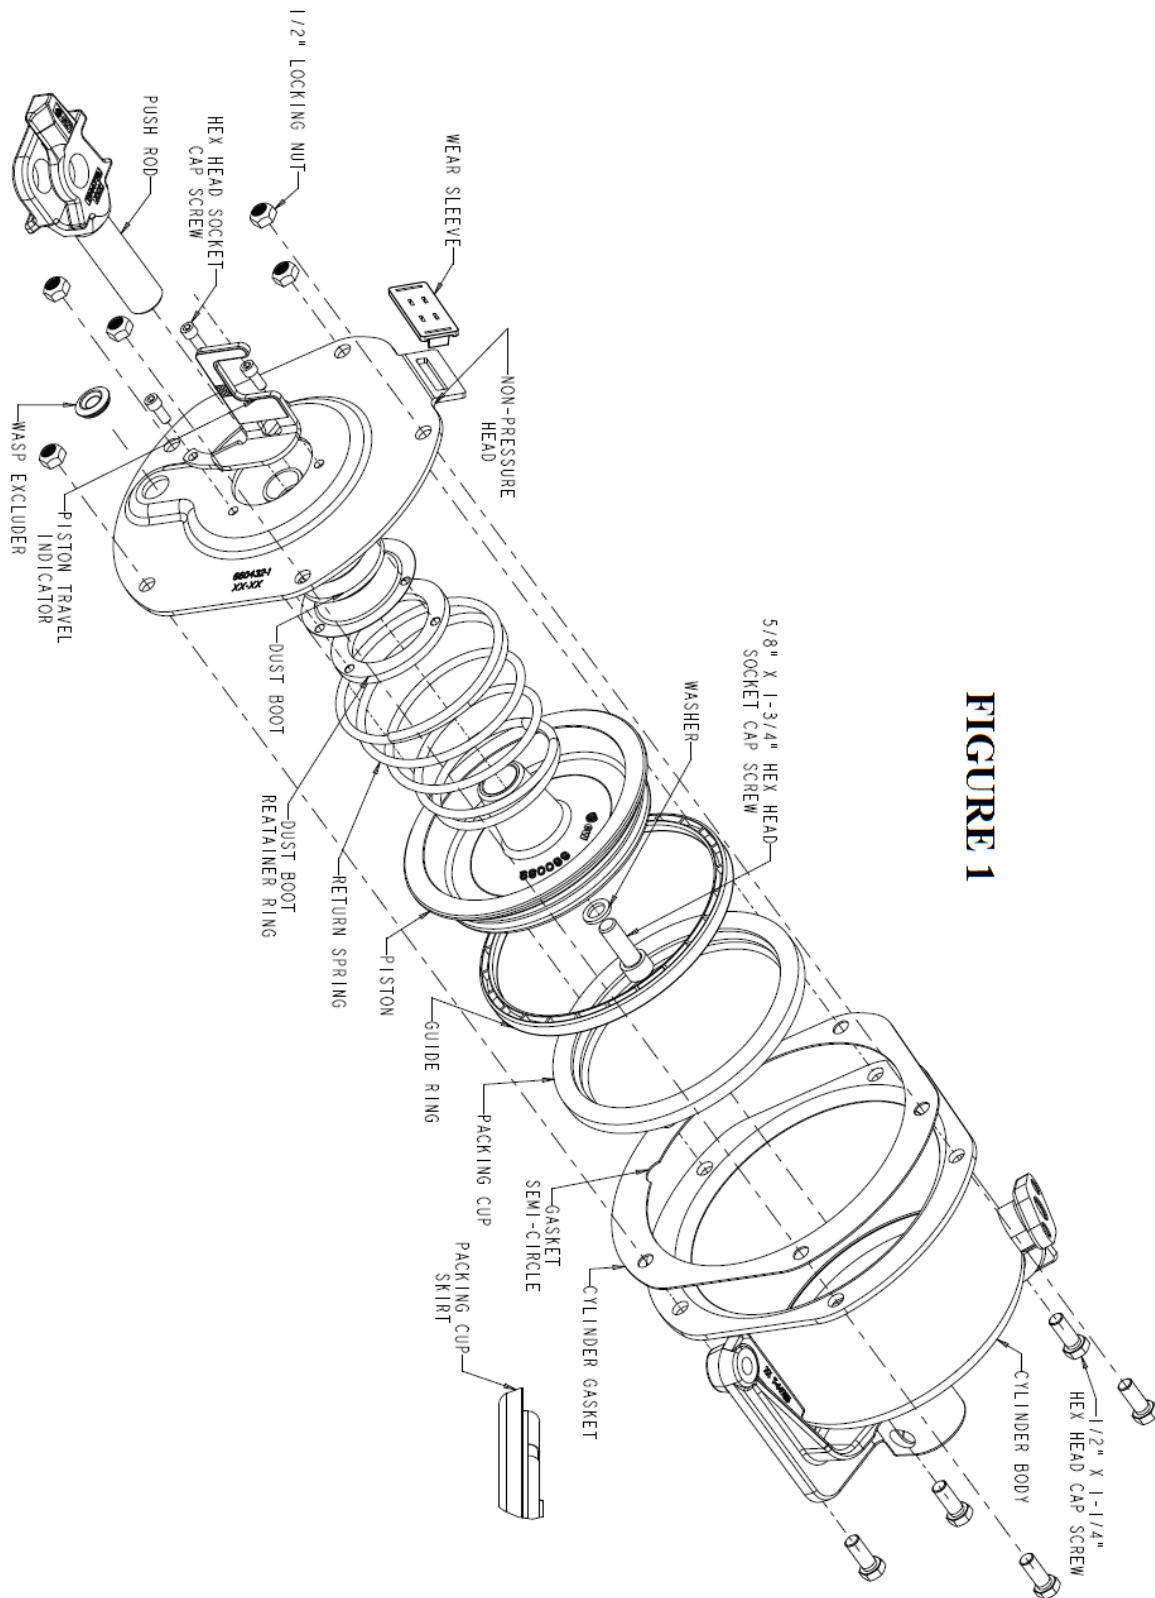

FIGURE 1
- 8.1 With the non-pressure head supported, install a new dust boot as shown in **FIGURE 1**.
- 8.2.2 As shown in **FIGURE 1**, be sure to install the piston travel indicator on the non-pressure head under two of the hex head socket cap screws.
8.5 Install the return spring as shown in **FIGURE 1** being sure that it is seated in the non-pressure head with the push rod through its center.
- 8.9.1 Make sure the curved section of the guide ring is facing the top as shown in **FIGURE 1**.
- 8.14.1 It is imperative that the wasp excluder hole in the non-pressure head is located at the bottom of the cylinder assembly and that the pushrod is oriented as shown in **FIGURE 1**.
- 8.15 Install a $\frac{1}{2}$ " x 1- $\frac{1}{4}$ " hex head cap screw through each of the five bolt holes, being sure each one passes through the cylinder body, gasket, and non-pressure head, in the orientation shown in **FIGURE 1**.
- 8.17 Snap the wasp excluder and wear sleeve in place as shown in **FIGURE 1**.